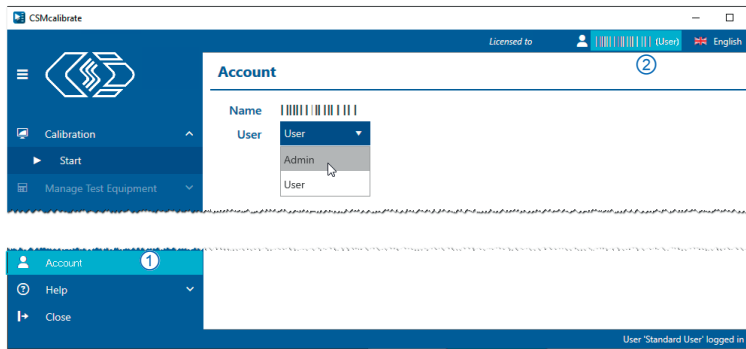

Fig. 3-29: **Account** menu
- ➞ Click on **Account** in the menu on the left (Fig. 3-29, ①) or in the field in the header on the right (Fig. 3-29, ②), where the name of the currently logged-in user is displayed.